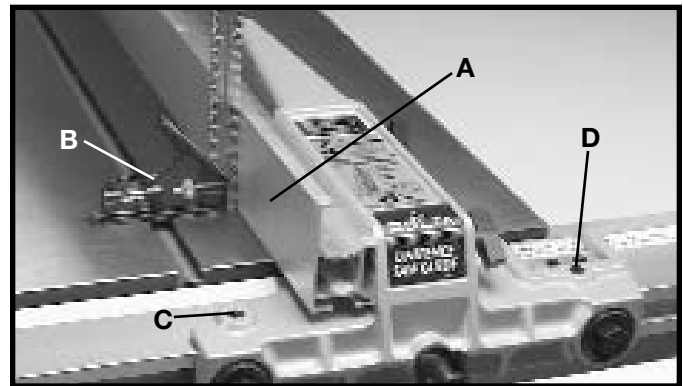

Fig. 49
The fence must be adjusted so that the face of fence (A) Fig. 49, is 90 degrees to the table. To check if the fence is 90 degrees to the table, place a square (B) on the table with one end of the square against the fence, as shown. If an adjustment is necessary, tighten or loosen one of two screws (C) or (D) until the fence is 90 degrees to the table.